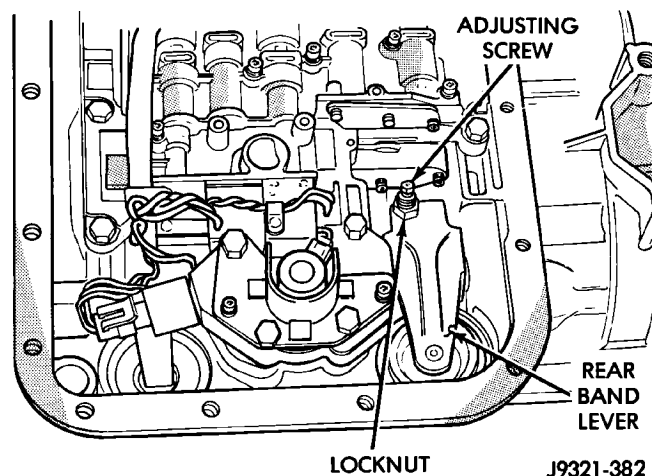

Fig. 256 Rear Band Adjusting Screw Location
- (1) Raise vehicle.
- (2) Remove transmission oil pan and drain fluid.
- (3) Loosen band adjusting screw locknut 5-6 turns (Fig. 256). Be sure adjusting screw turns freely in lever.